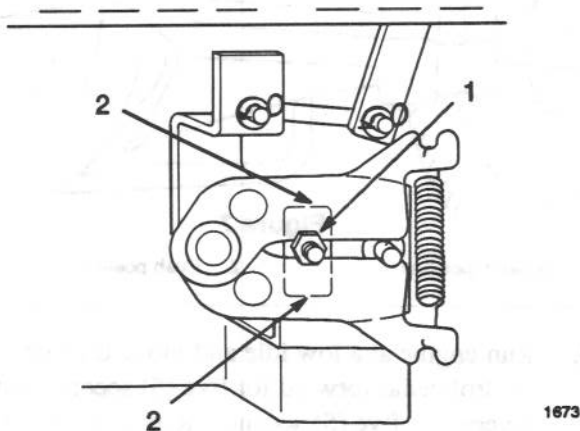
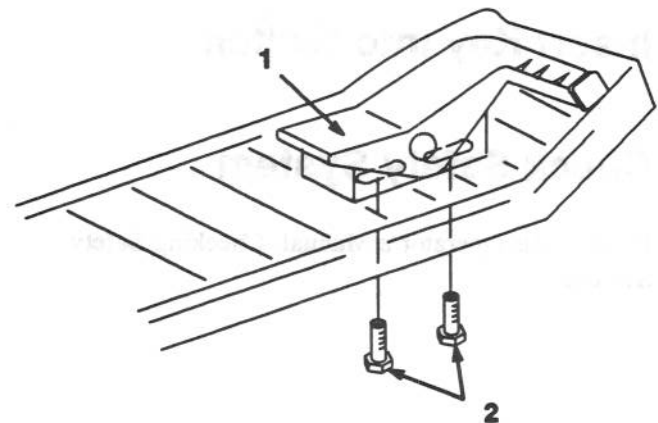

Figure 8
Figure 9
2. Loosen locknut securing adjustment (Fig. 8).
3. Move adjustment stud up or down until creep is minimized (Fig. 8). There may still be some wheel rotation with wheels off the ground.
4. Tighten the locknut (Fig. 8). Move the traction control pedal forward and reverse and allow it to center. Verify that there is still no creep with the wheels on the ground.
After adjusting the hydro neutral position it is necessary to check the traction control pedal. While pressing the control pedal (Fig. 9) full forward and full reverse it must not contact the footrest pad before hitting the stop(s) at the transaxle (Fig. 8).
2. Loosen the capscrews below the right footrest. Slide the pedal in the slots away from the direction that made contact with the footrest (Fig. 9).